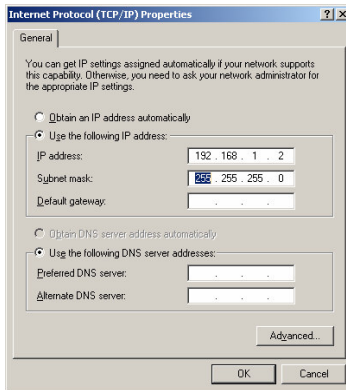

Figure 15: Internet Protocol (TCP/IP) Properties Window
6. Select Use the following IP Address, and fill in the details as shown in Figure 15.